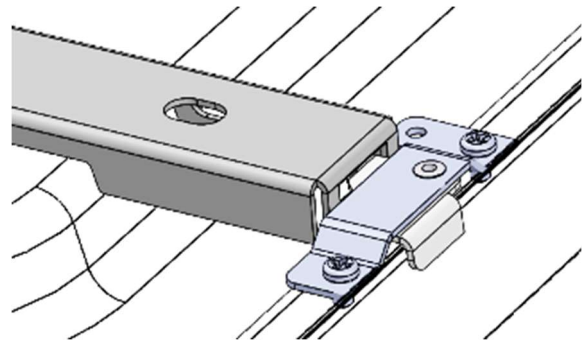

Figure 8B
- Latch tabs should be flush against side of fixture, see Figure 8B